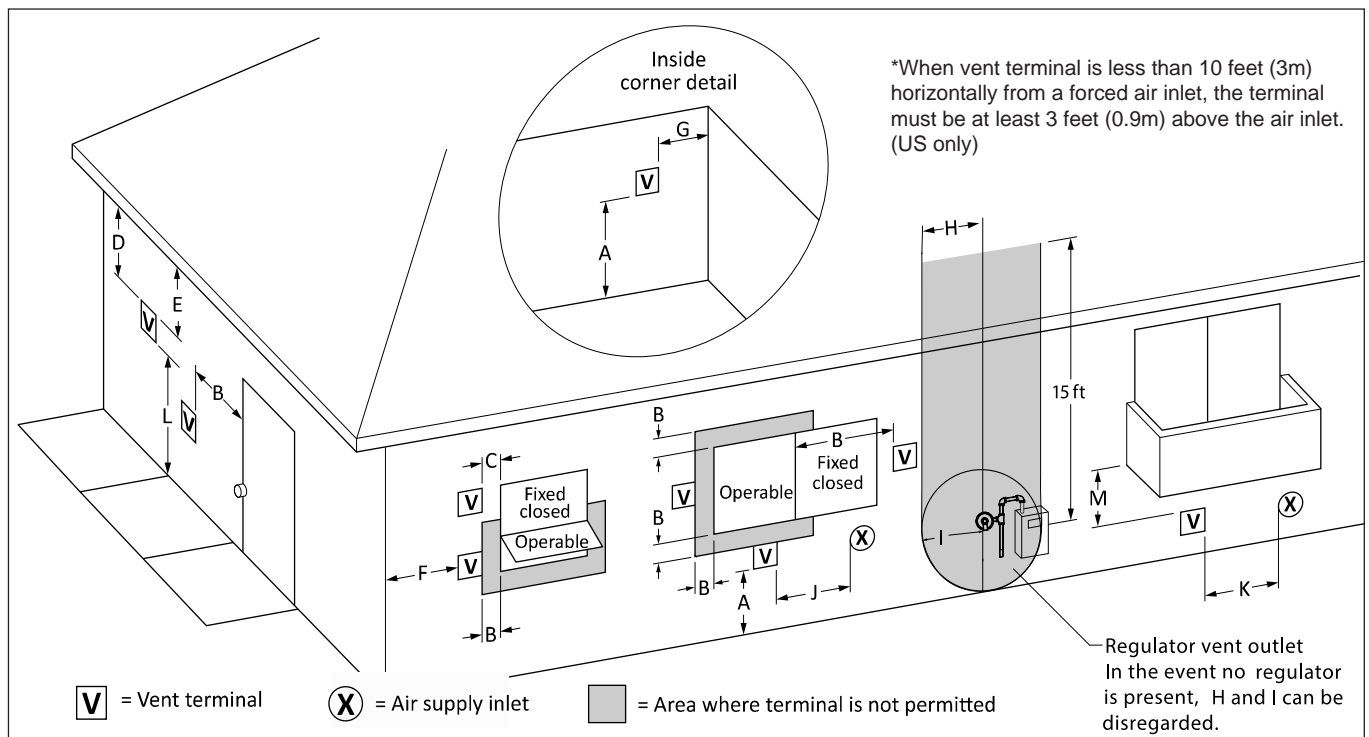

Figure 4. Vent Terminal Clearance.
1. Figure 4 shows the requirements for mechanical vent terminal clearances for the U.S. and Canada.
4. If the appliance is side-wall vented to the same wall, locate the vent terminal at least 3 feet (0.9m) horizontally from the combustion air terminal, and locate the vent terminal at least 1 foot (0.3m) above the combustion air terminal (see Figure 4).